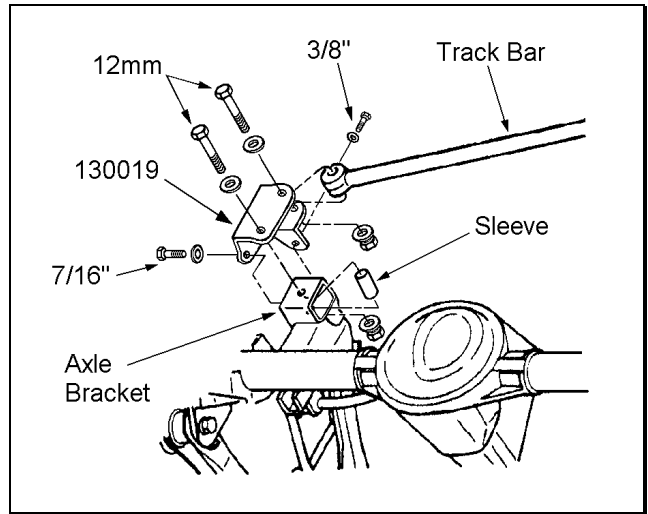

Figure 12
- 2) Disconnect the track bar from the frame bracket. See figure 12.
- 3) Reinstall the track bar bracket and attach it to the axle with the sleeve and hardware from kit 860072. See Figure 12. Tighten to specifications.